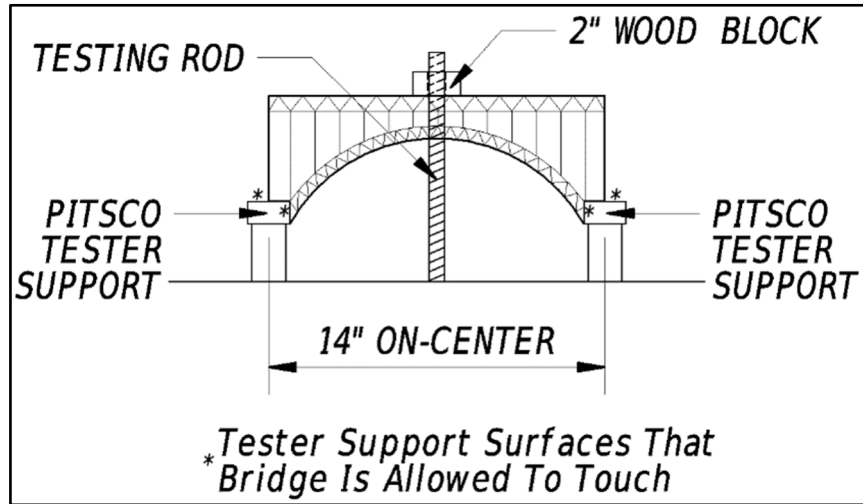
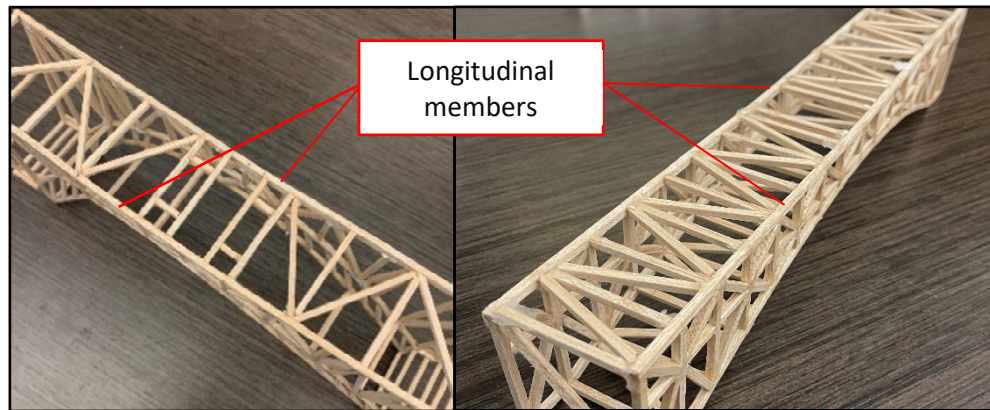

Figure 6. Tester Configuration Detail
Figure 8. Acceptable cross framing
- e) End to end, the length of the entire bridge must be 14 inches, refer to Figure 6.
- g) The area where the bridge will be loaded (center of the bridge) must have at least a $\frac{3}{4}$ -inch hole to allow a $\frac{5}{8}$ -inch testing rod to pass through. The rod must also be able to pass through full height of the structure to insert the rod into the tester. This is required to attach the rod to a 2-inch x 2-inch block of wood used for strength testing by the Pitsco Tester. An example configuration can be seen in Figure 6. The block of wood must be able to be pushed across the top surface of the bridge (a bridge deck of any kind is not allowed). No more than 2 longitudinal members will be permitted in the top of the bridge structure (refer to Figures 8 & 9 for more details). Please note, diagrams do not represent the required design and shall only be used for reference.
- h) Tester supports will be placed at 14 inches on center. Support dimensions are shown above in Figure 6.